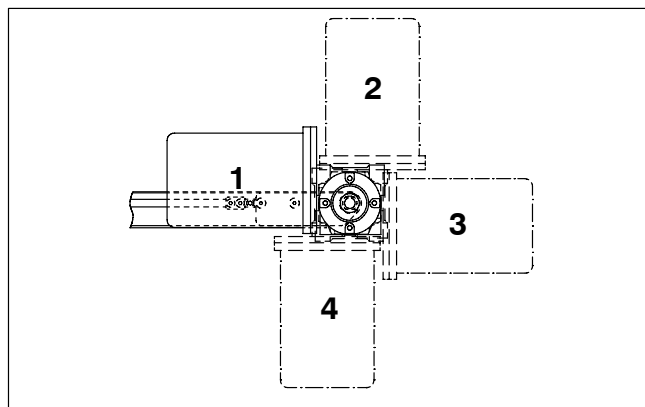
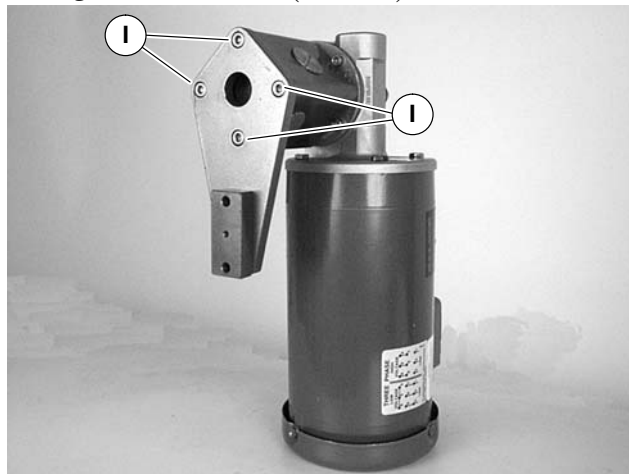

Figure 3
Figure 4
NOTE: Gearmotor may be operated in positions 1, 2, 3 or 4 (Figure 3).
2. If required, change gearmotor position by removing four (4) screws (I of Figure 4). Rotate gearmotor to other position (Figure 3) and replace screws (I). Tighten to 100 in-lb (12 N-m).